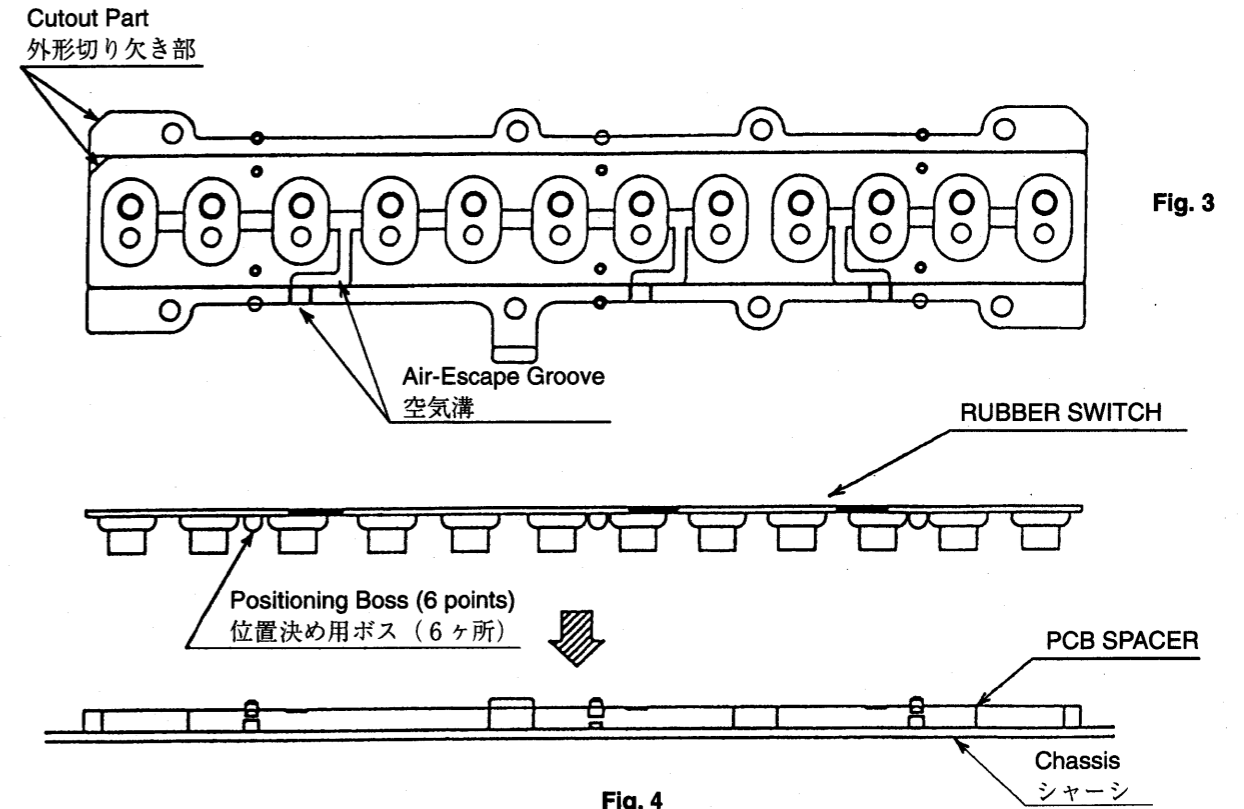

Fig. 4
2) Next, aligning the positioning bosses of RUBBER SWITCH with the circular holes of SPACER, and as done for the spacer, place one RUBBER SWITCH 8PL, four RUBBER SWITCH 12PL, one RUBBER SWITCH 13PL and one RUBBER SWITCH in order, starting on the lower tone side. In this procedure, make sure that RUBBER SWITCH and SPACER are positioned with their cutout parts and air-escape grooves aligned, respectively. (Refer to fig. 3 and fig. 4.)
2) 次に、SPACERの丸穴部にRUBBER SWITCHのボスを位置決めして、SPACERと同様に低音側より順にRUBBER SWITCH 8PL、RUBBER SWITCH 12Pを4個、RUBBER SWITCH 13P、RUBBER SWITCH 7HPと置いていきます。この際、RUBBER SWITCHとSPACERの外形切り欠き部、及び空気溝の位置が合うように注意してください。(fig. 3 fig. 4参照のこと)